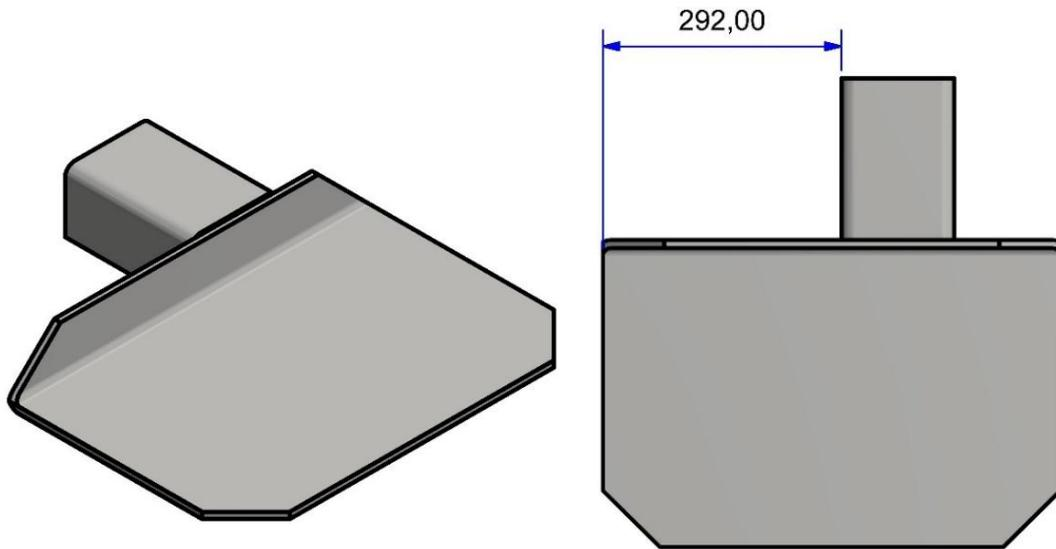

Figure 5 (Assembly 1 – Standard Wheel Rest Plate and Outer Sleeve)
2. Weld the strengthener plate to the wheel rest box as shown in Figures 5 and 6